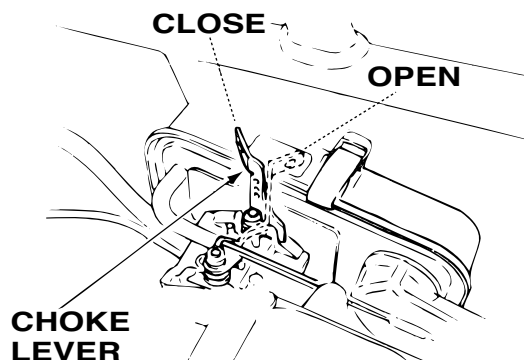

Figure 8. Choke Lever
3. Close the choke lever (Figure 8) and move the throttle lever to the "Full Open" position. Turning the choke lever 90° clockwise closes the choke. In cold weather, start the unit with choke fully closed. In warm weather or when the engine is warm, the unit can be started with choke halfway or completely open.
5. If engine fails to start, move the choke lever (Figure 8) to the half open position to avoid flooding.